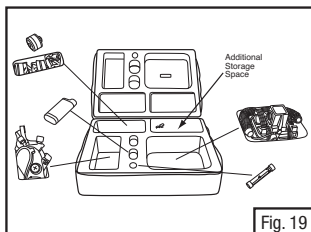
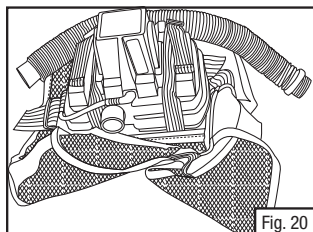

Fig. 19
Fig. 20
- The Tight Fitting PAPR (NIOSH CBRN approved) assemblies should be packed in the RBE-DFL duffel as illustrated below (Fig. 19). The Tactical Vest can be folded underneath the Turbo PAPR unit in order for it to fit into the RBE-DFL space (Fig. 20). The duffel is designed to provide safe and secure storage and also provides room for additional gear.